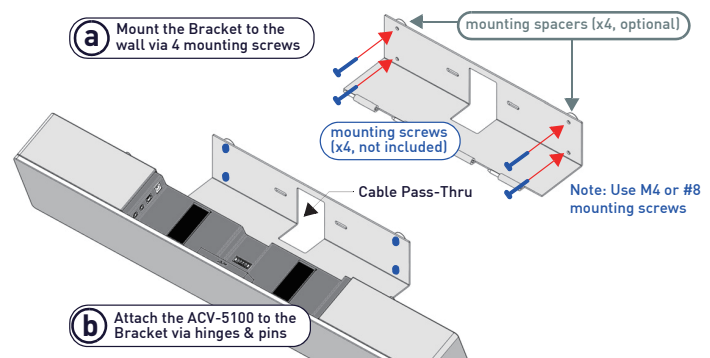

FIG. 6 WALL MOUNTING THE ACV-5100
- Mount the Bracket using mounting screws and optional mounting spacers (see FIG. 6).
- Use the Wall Mount Bracket as a template to mark the locations for the four mounting screws (not included). Use mounting screws and hardware appropriate for the surface being utilized to secure the Bracket to the wall. *Optionally, if not hiding them behind the drywall, place the four included Wall Mount Spacers between the Bracket and the wall to create a 5mm gap for routing flat cables (see FIG. 6).*